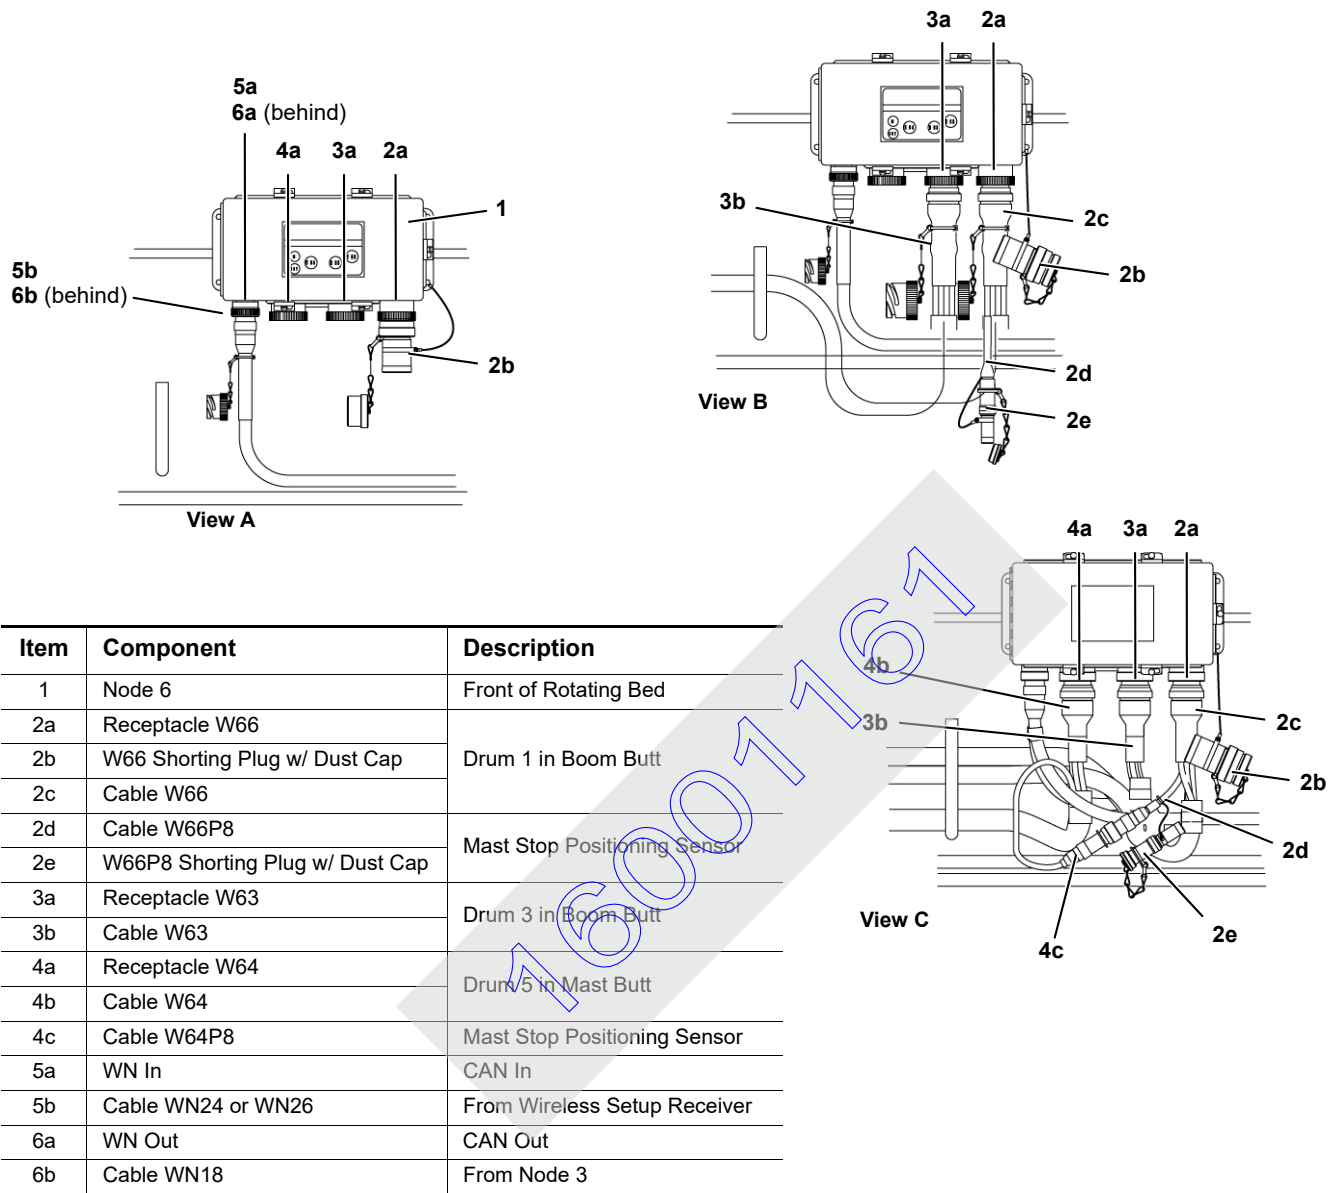

FIGURE 4-26
- a. Remove terminator plug (6, View E) from electric cable (3) on the crane.
- b. Connect electric cable (8) from boom butt to cable (3).
- NOTE:** For Node-6 electrical connections with Mast Stop Limit Switch, reference Figure 4-26 for cranes with software version M002066 or newer.
- a. Remove pins (3, View A) and rotate links (4) to working position (View B).
See Figure 4-26 for the following procedure.